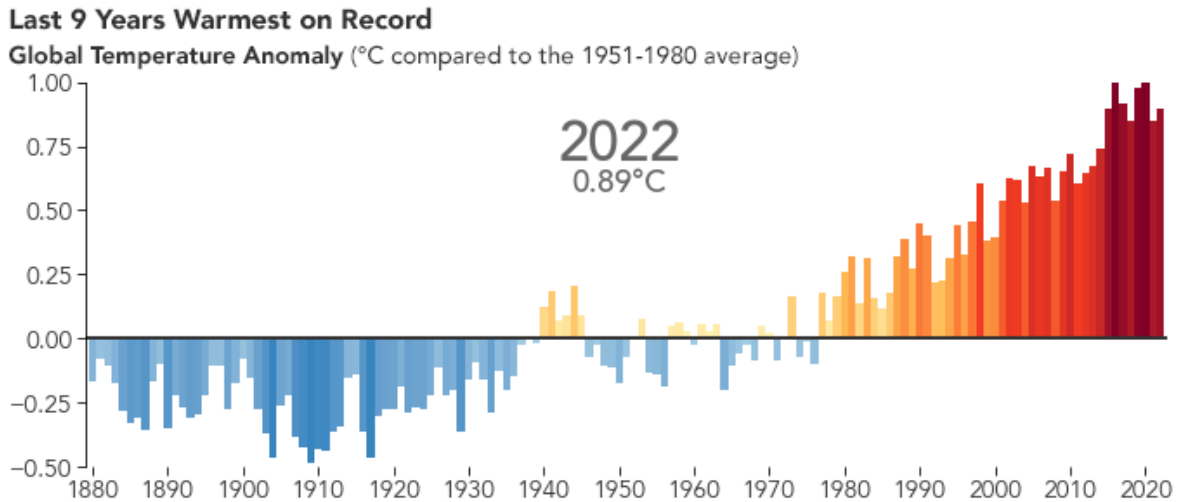

Figure 2: Average global surface temperature per year, showing an increase of 0.89 deg C in recent years. Net zero emissions aims to prevent further increases.
- a. Average surface temperature rise, as shown in Figure 2